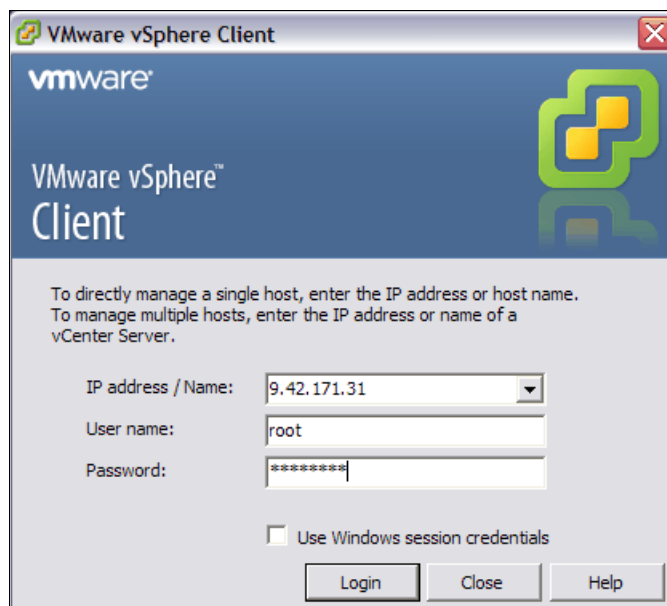

Figure 22-54 VMware vSphere Client Logon
1. Using the VMware vSphere Client, connect to the new VMware ESX Server as root as shown in Figure 22-54.